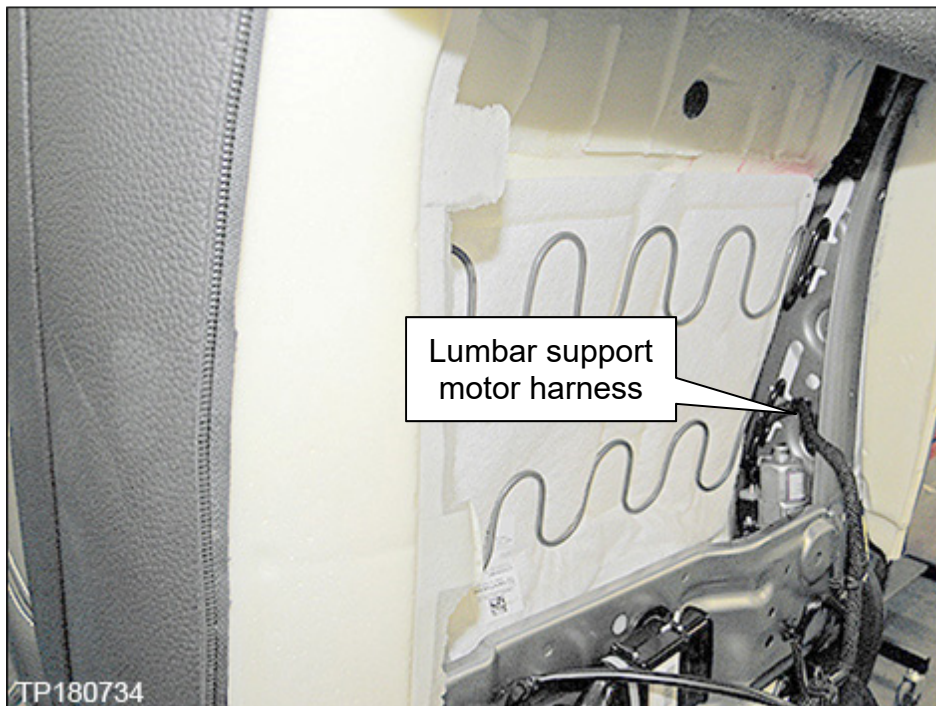

Figure 1
3. Unzip the seatback to access the lumbar support motor harness shown in Figure 1.